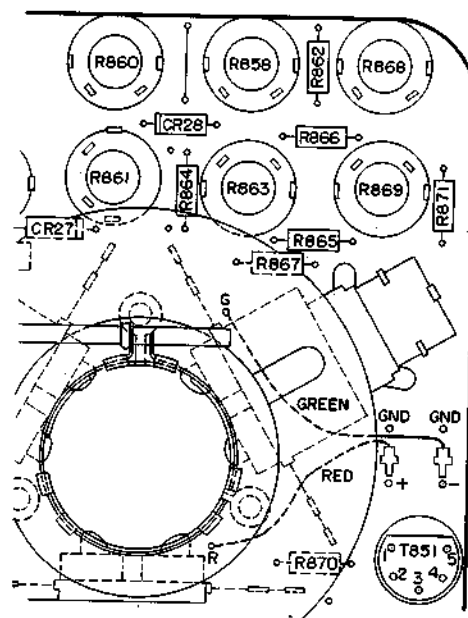

FIGURE 3
1. Remove the red and the green PLUGS as shown in Figure 3.